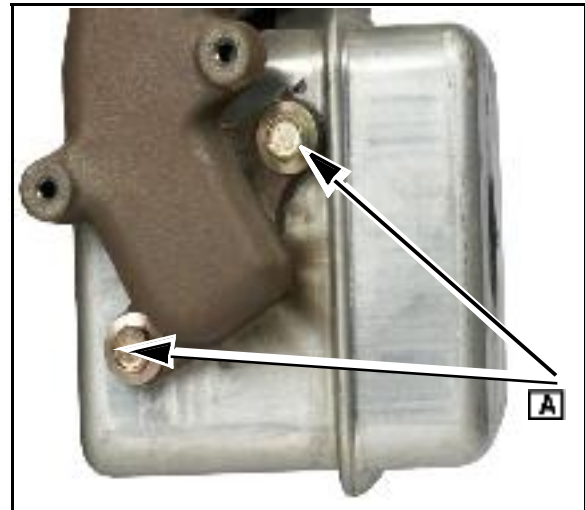

Fig. 16
1. Assemble the lower portion of the exhaust manifold (with its gasket) and two bolts ([A] Fig. 16) to the muffler and finger-tighten.